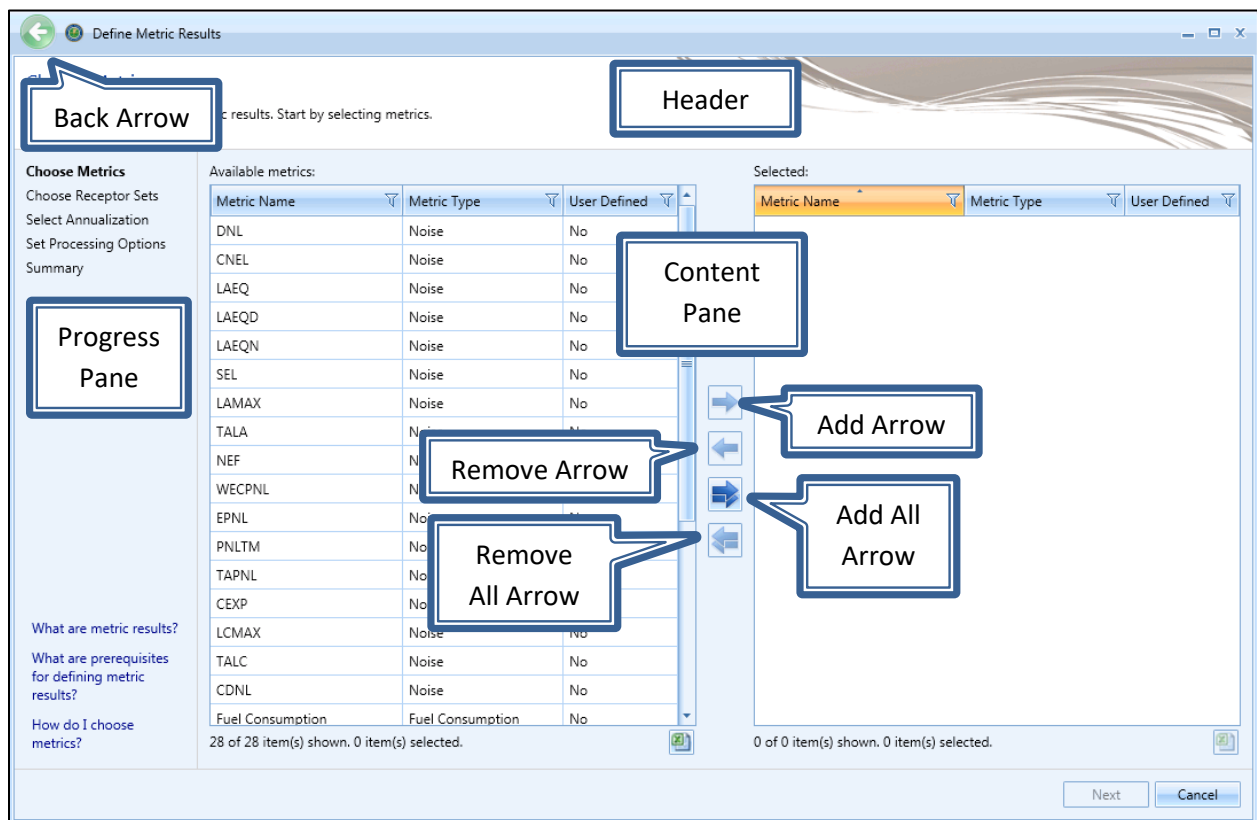

Figure 5-6 Define Metric Results Wizard
2. Click *Define* or select an existing metric and click *Copy* to open the *Define Metric Results* wizard (Figure 5-6).
The *Back Arrow* for the wizard is located in the upper left corner (see Figure 5-6).